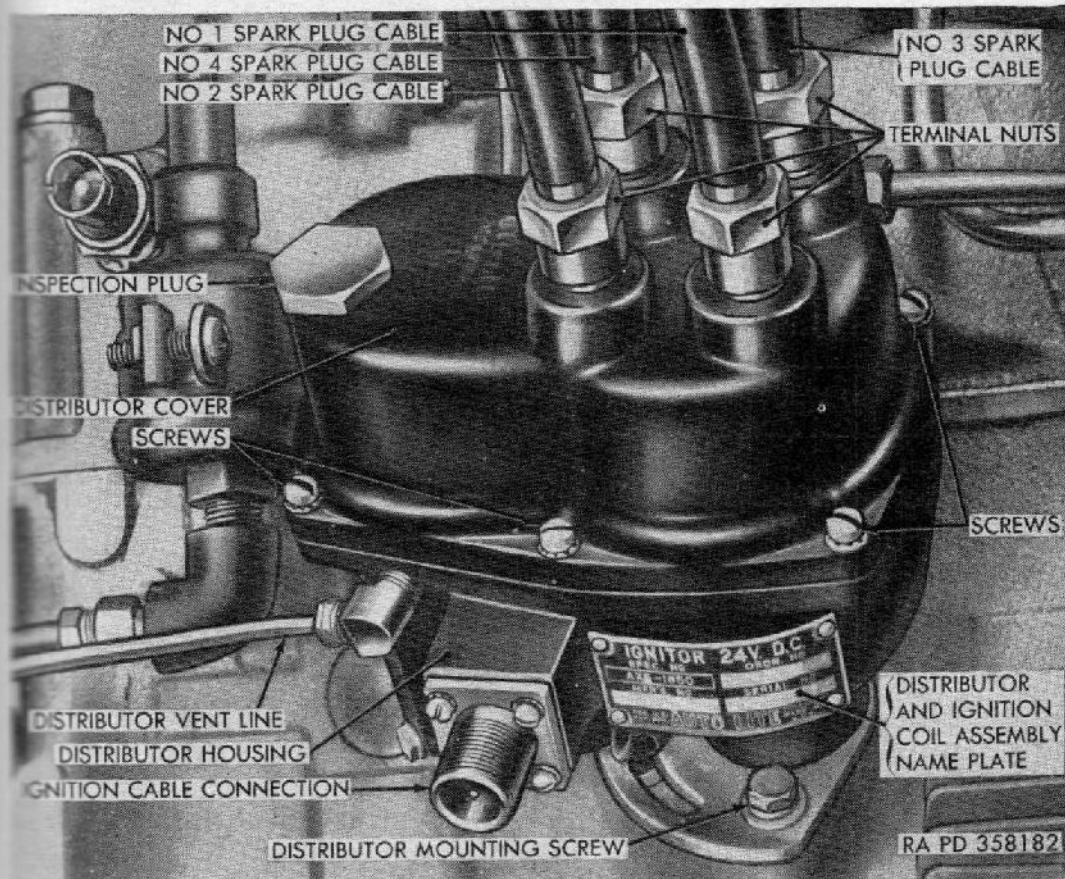
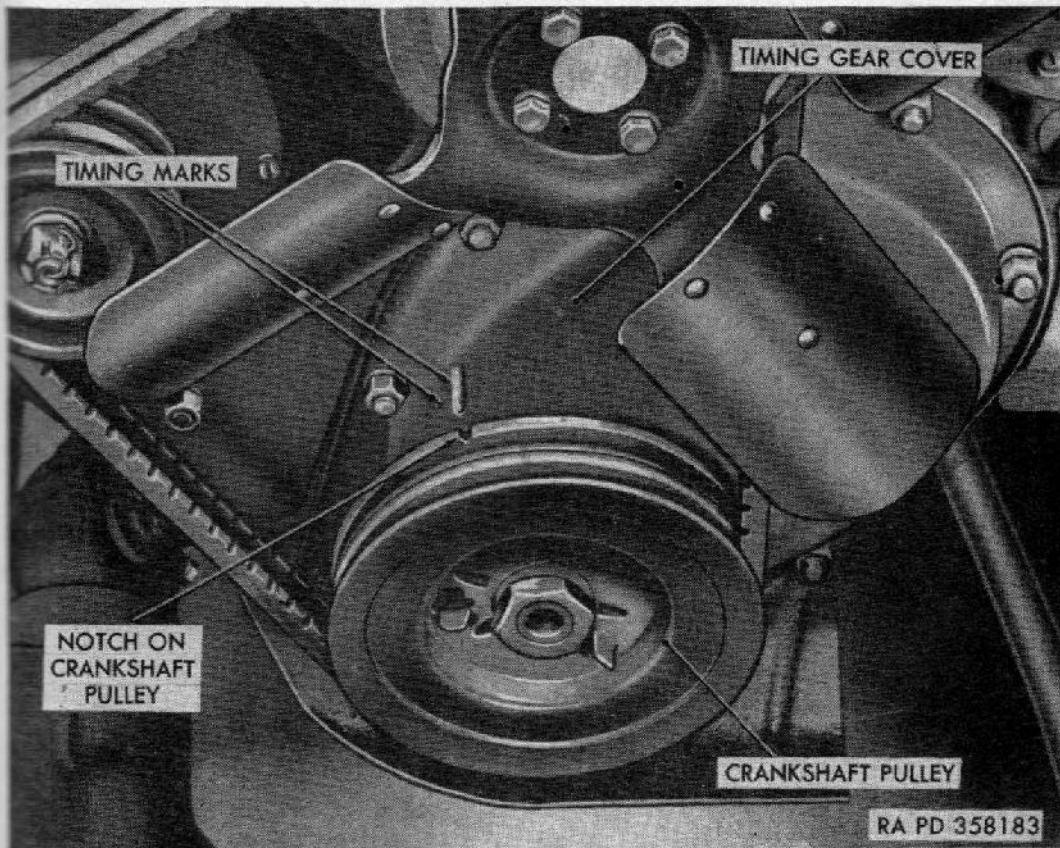
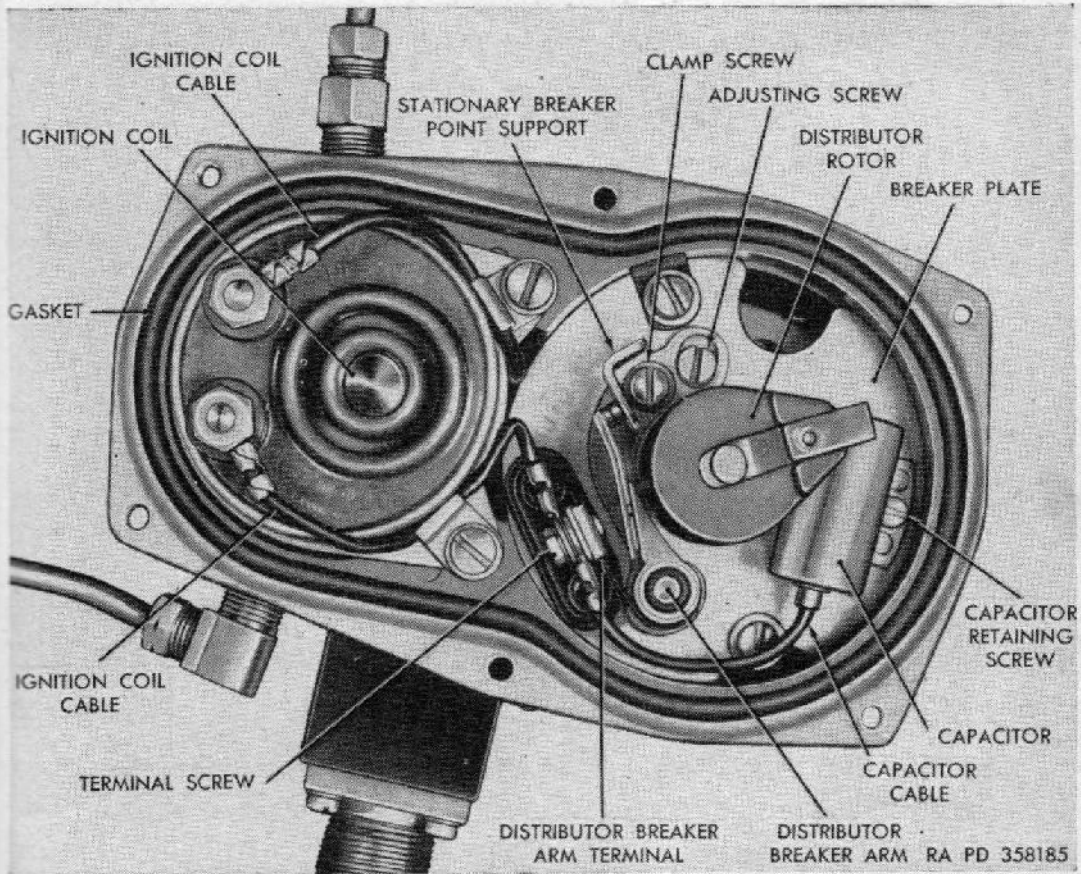

Figure 57. Distributor and ignition coil assembly mounted on engine.
Figure 58. Timing marks on crankcase pulley.
Figure 60. Distributor and ignition coil assembly—distributor cover removed.
- (2) *Distributor and ignition coil assembly* (fig. 57). The distributor and ignition coil assembly is a unit designed to convert the low voltage (primary circuit) into high voltage (secondary circuit); to distribute the high voltage to the
- (1) Note location of number one spark plug cable (fig. 57) and scribe a mark with chalk on the distributor housing at this point.
- (2) Remove six screws with internal tooth lock washers securing distributor cover (fig. 57) to distributor housing and remove distributor cover. Clean and adjust or replace distributor breaker points (par. 113a) if necessary.
- (3) Do not turn ignition switch on. Slowly turn engine by cranking intermittently with starter until timing mark (fig. 58) (notch on crankshaft pulley) is alined with 5-degree marks on timing gear cover (fig. 58). If rotor segment points toward mark indicating No. 1 spark plug cable location, proceed with (4) below. If rotor segment points toward No. 3 spark plug location, turn engine over one complete revolution until rotor segment points to No. 1 position with timing marks alined.
- (4) Install distributor cover, making certain that gasket (fig. 60) is in good condition and in place. Install and tighten six screws with internal-tooth lock washers.
- (7) Start the engine and run at a slow idle. Direct beam of timing light toward the timing marks (fig. 58). Timing light flashes make the timing mark on the crankshaft pulley (fig. 58) appear stationary. Loosen distributor mounting screw (fig. 57) and turn distributor housing clockwise or counterclockwise as necessary to synchronize flashes of the timing light with the timing marks on the crankshaft pulley. When the timing mark is aligned, tighten distributor mounting screw.
- (1) Remove six screws with internal-tooth lock washers securing distributor cover (fig. 57) and remove distributor cover. Pull distributor rotor (fig. 60) off distributor cam. Clean the distributor breaker points, using a contact point dresser. If distributor breaker points are badly pitted or burred, replace them (*b* below).
#### *b. Distributor breaker point replacement (fig. 60).*
- (1) *Removal.* Remove six screws securing distributor cover (fig. 57) and remove distributor cover. Pull distributor rotor off distributor cam. Remove clamp screw to remove stationary breaker point support from breaker plate. Loosen terminal screw on distributor breaker arm terminal, remove ignition coil and capacitor cables, and lift out distributor breaker arm.
- (2) *Installation.* Position slotted hole in stationary breaker point support over the adjusting screw, and place and tighten the clamp screw in the other hole. Place the distributor breaker arm on the pivot part of the breaker plate and slip the slot of the breaker arm spring over the loosened terminal screw, and tighten terminal screw securely. Adjust distributor breaker points (*a* above) and install distributor cover.
*c. Capacitor Replacement (fig. 60).*
- (1) *Removal.* Remove the six screws securing distributor cover (fig. 57) and remove distributor cover. Remove the capacitor retaining screw and loosen the terminal screw on the breaker arm spring terminal and remove capacitor cable. Lift out capacitor.
- (2) *Installation.* Position the capacitor on the breaker plate and secure with capacitor retaining screw. Place capacitor cable on breaker spring terminal and secure with terminal screw. Install distributor cover and secure with six screws.
- (1) *Removal.* Remove six screws securing distributor cover (fig. 57) and remove distributor cover. Remove nuts and washers securing the ignition coil cables to the terminals on the ignition coil (fig. 60). Remove the two screws and washers securing the ignition coil and cable clips to the distributor housing and lift out the ignition coil (fig. 63).
*e. Distributor and Ignition Coil Assembly Removal (fig. 57).*
- (1) Loosen the terminal nuts securing the spark plug cables to the distributor cover and remove the spark plug cables. Remove distributor vent line and ignition switch cable from distributor housing.
- (2) Remove six screws attaching distributor cover to distributor housing and remove distributor cover. Mark or note position of distributor rotor (fig. 60) to facilitate installation of the replacement unit. Remove the distributor mounting screw and lift the distributor and ignition coil assembly from the engine.
- (1) Remove the cover from the replacement distributor and ignition coil assembly and place the distributor rotor (fig. 60) in the same position as on the unit removed. Insert the dis-
tributor and ignition coil assembly into the hole in the engine engaging the driving slot and seat the unit. Install the distributor mounting screw (fig. 57) but do not tighten. Set the ignition timing (par. 112) and tighten the distributor mounting screw. Install the distributor cover and secure with six screws.
- (2) Connect the distributor vent line (fig. 57) and the ignition switch cable. Install the spark plug cables (fig. 57) in the correct position and tighten terminal nuts.
- (1) *Removal.* Loosen the terminal nuts (fig. 57) securing the spark plug cables to the spark plugs (fig. 25) and distributor cover (fig. 57). Remove spark plug cables from cable clips on intake valve cover (fig. 25) and remove the spark plug cables.
- (2) *Installation.* Attach the spark plug cables to the distributor cover (fig. 57) and tighten the terminal nuts.
- (2) *Cleaning and adjustment.* Clean the spark plugs, using suitable sand-blast cleaning equipment. If electrodes or porcelain insulator are badly burned, install new spark plugs ((3) below). Using a round feeler gage, check the gap between electrodes. If the gap is not 0.030 inch, adjust gap by bending grounded (side) electrode only. Do not bend center electrode.
- (3) *Installation.* Install spark plugs with gaskets in openings in cylinder head and tighten securely. Install spark plug cables on spark plugs, making certain cables from the four spark plugs are inserted in the distributor cover as shown in figure 57. Tighten terminal nuts securely.